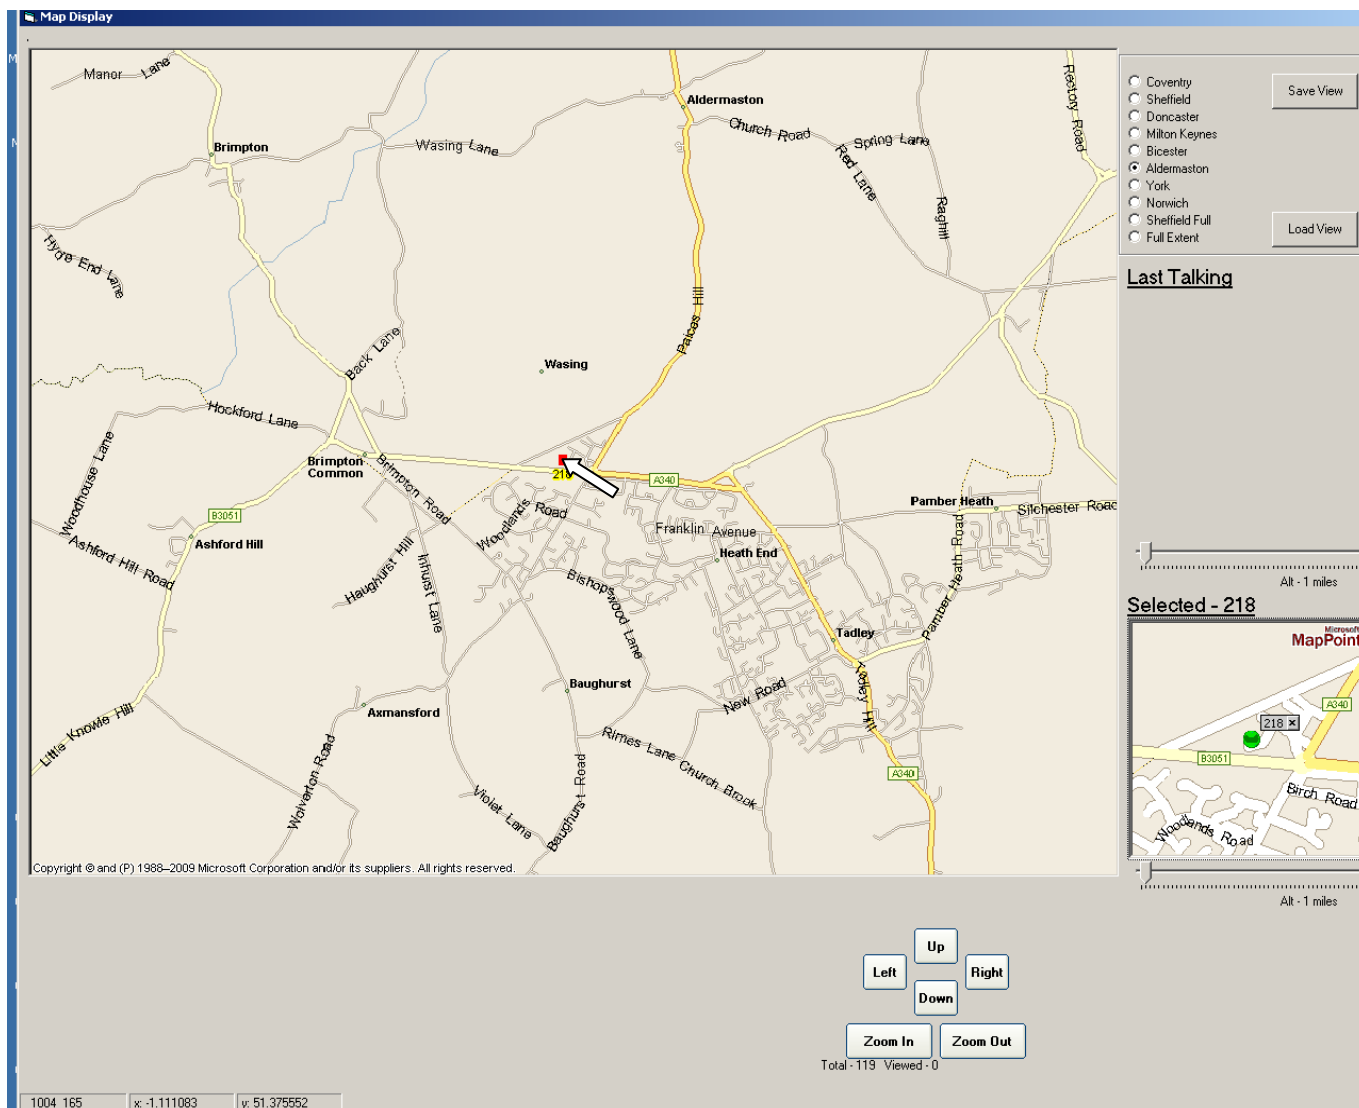

FIG. 16
- Click on the “Enter Name and Confirm” button. The selected view label will change to the newly entered text, (Aldermaston). In addition, Fig.16 shows the cursor hovering over ID0218, which opens the Selected box to display ID218’s position.
If a unit is selected, as with ID 0218 in Figs.16 & 17 above, the bottom right Selected box will show the selected vehicle position. The slider under the box is the zoom control calibrated in kilometers above the earth.
- Hover cursor over vehicle icon. The map sector with the vehicle icon in the centre is displayed in the Selected box. Fig.16 illustrates.